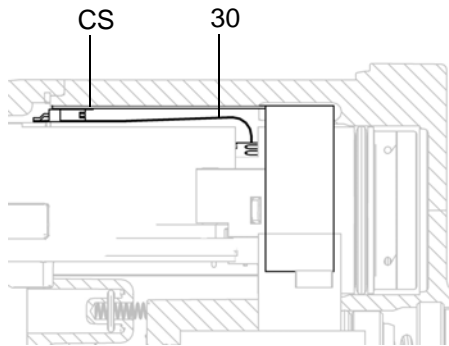

Fig. 36. Connect Flexible Circuit
8. Insert the power supply/turbine assembly in the gun body (10). Make sure the ground strips (EE) make contact with the gun body.
Smart models only: Align the connector of the 6-pin flexible circuit (30) with the socket (CS) at the top of the gun body. See FIGURE 36.